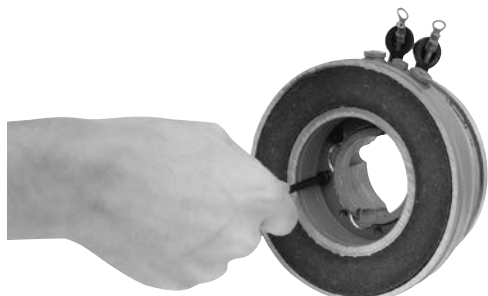

Figure 15
3. Mount the magnet to the magnet hub using capscrews and lockwashers. (Figure 15)